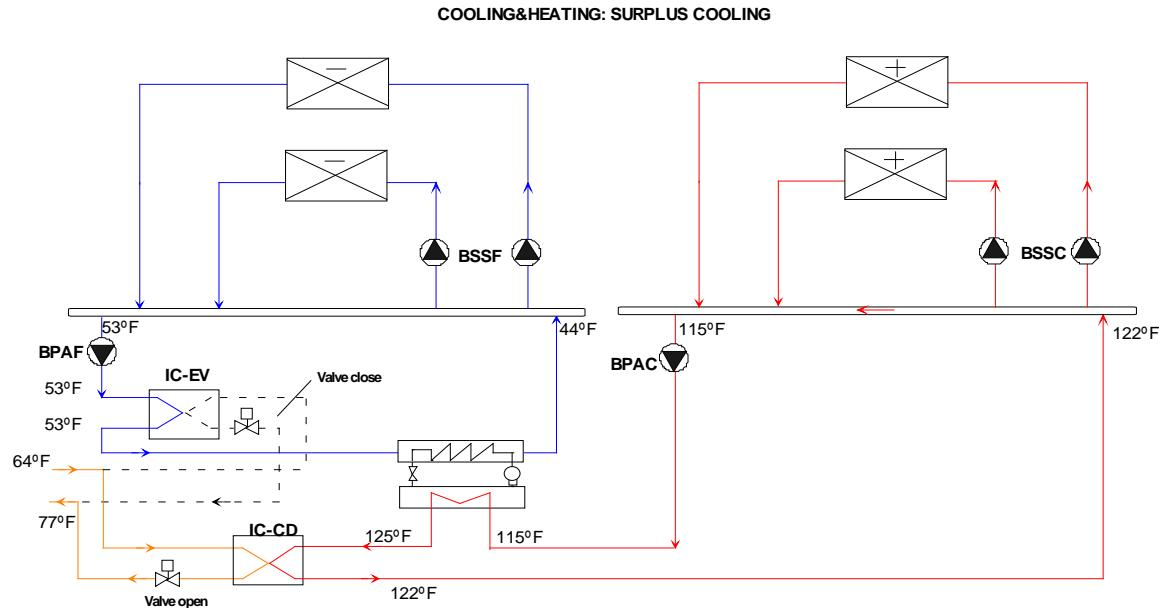

Figure 33. Loop-to-Loop Heat-Pump
3. Cooling dominated (Figure 33) – Simultaneous heating and cooling loads exist, with cooling being the dominant load. Excess heat is rejected from the hot-water loop via heat-exchanger IC-CD. The heat-exchanger is controlled to maintain the supply temperature setpoint of the hot-water loop. Since the temperature returning from the hot-water loop and entering the condenser may be substantially higher than in the cooling-only mode, the capacity and energy efficiency of the chiller are reduced.